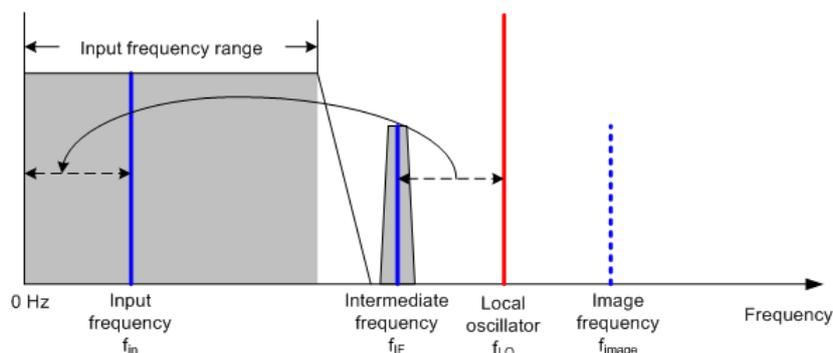

Figure 8-3: Mixing process
The mixer converts the RF signal to a fixed intermediate frequency (IF). This process usually involves several stages. It lasts until you get an IF for which good narrowband filters are available. The R&S ZVH needs three mixing stages to get an IF that the filter can handle. Figure 8-3 graphically shows the mixing process.